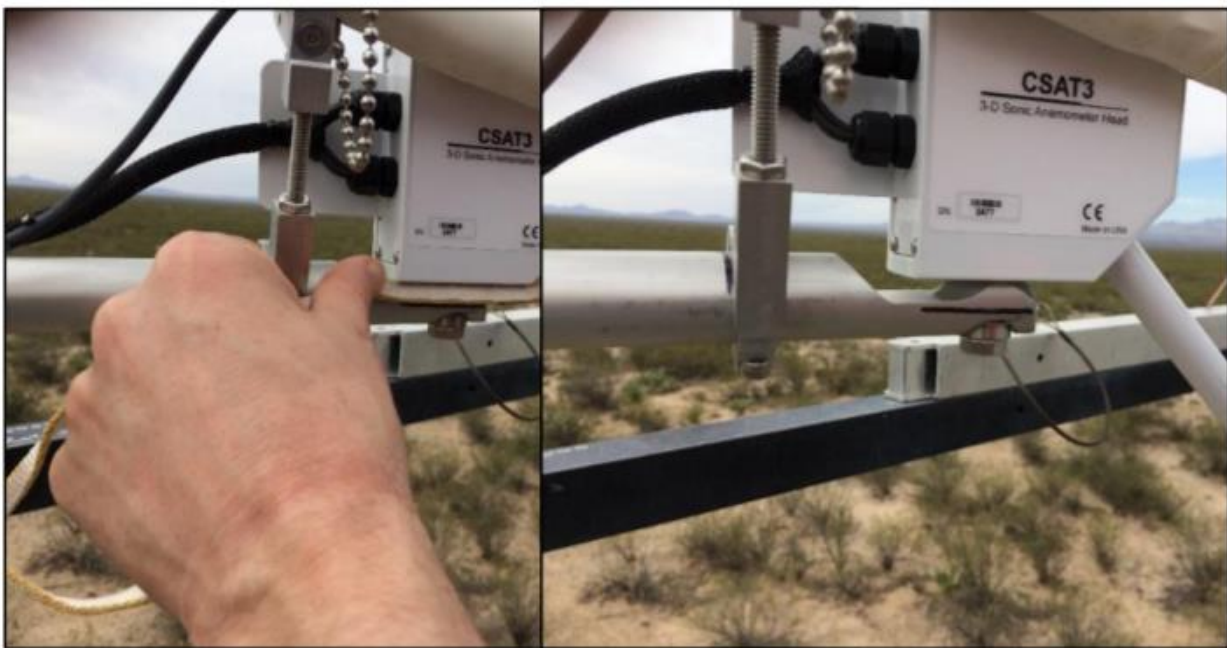

Figure 96. Using a Sling to Mark CSAT Position on Mounting for Reference before Moving.
**PRO TIP:** It is helpful to mark current CSAT position on the mounting before removal to assist in positioning of replacement (see **Figure 96**).
**PRO TIP:** It helps to mark the current position of the CSAT on the mount before moving, a sling is useful as a spacer (**Figure 96**).
STEP 5 | Once within specifications, ensure all hardware is adequately tightened and re-verify inlet position as in **Figure 96**.